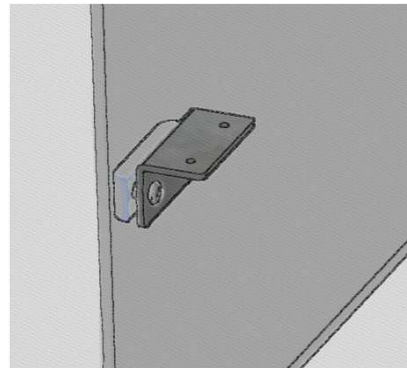
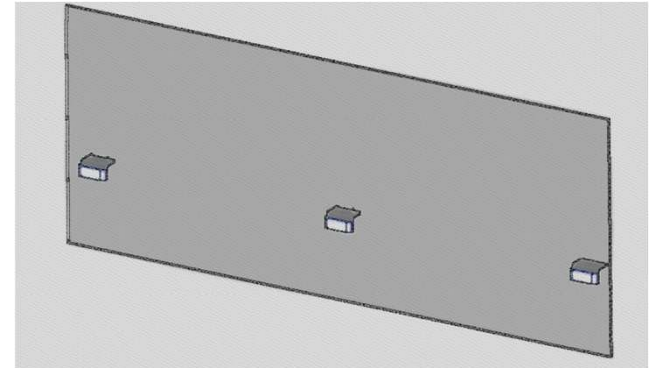

Fig. 1A
Fig. 1B
1. Align the bolt holes in the metal decorative cap with the pre-drilled holes on the front side of privacy screen. Then align the larger 9/32" holes of the metal angle bracket with holes on the back side of the panel. Use (2) 1/4-20 x 1/2" machine screws to attach. (Fig.1A) Repeat for the remaining brackets. Screens 60" and longer require (3) brackets. Screens 48" or less require (2) brackets (Fig.1B)